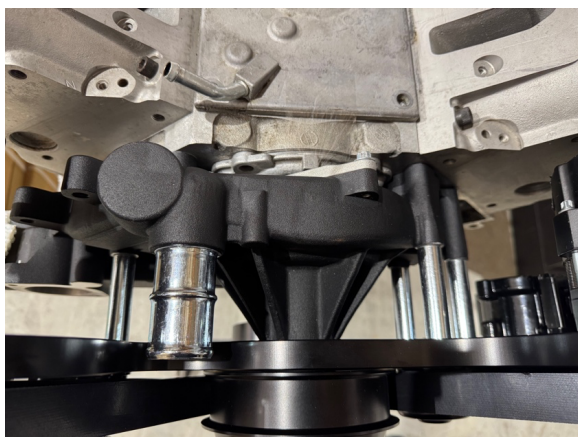

Figure 1. Bracket and water pump mounting detail.
4. Mount the water pump and the main cradle bracket together in one operation. The order of parts is the main aluminium mounting cradle, the 6 x 150 mm through-bracket bolts, then the 63 mm spacers, followed by the water pump. Two people may be helpful to align the water pump and bracket with the engine block. Once aligned, start the bolts at the top and progressively tighten all bolts before completing final torque. Re-install the water pump pulley. Refer to Figures 1 and 2 and Appendix A.